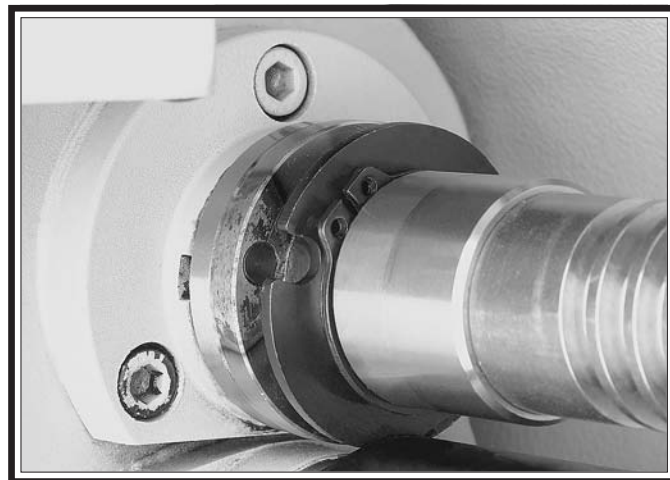

Figure 131. Shear pin access.
4. Move the retaining ring shown in **Figure 131** away from the shroud washer.
5. To make enough room to remove the shear pin, move the shroud washer away from the shear pin and against the retaining ring, as shown in **Figure 131**.